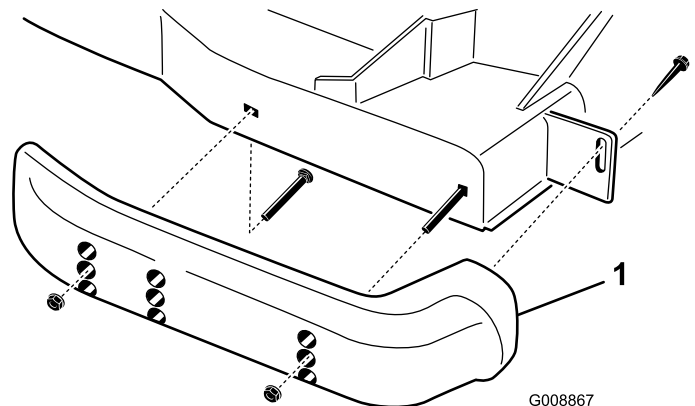

Figure 27
1. Loosen the screw at the front of each skid (Figure 27).
2. Remove the flange-head bolts and nuts from each skid (Figure 27).